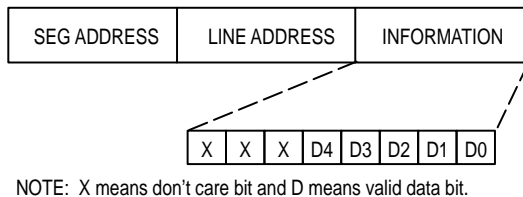

Figure 6. Data Packet
There are three transmission formats, from (a) to (c) as stated below. The data train in each sequence consists of segment address (S), line address (L), and font information (I), as shown in Figure 6. In format (a), each font information data has to be preceded with the corresponding segment address and line address. This format is particularly suitable for updating small portions of font patterns. However, if the current information byte has the same segment address as the one before, format (b) is recommended.